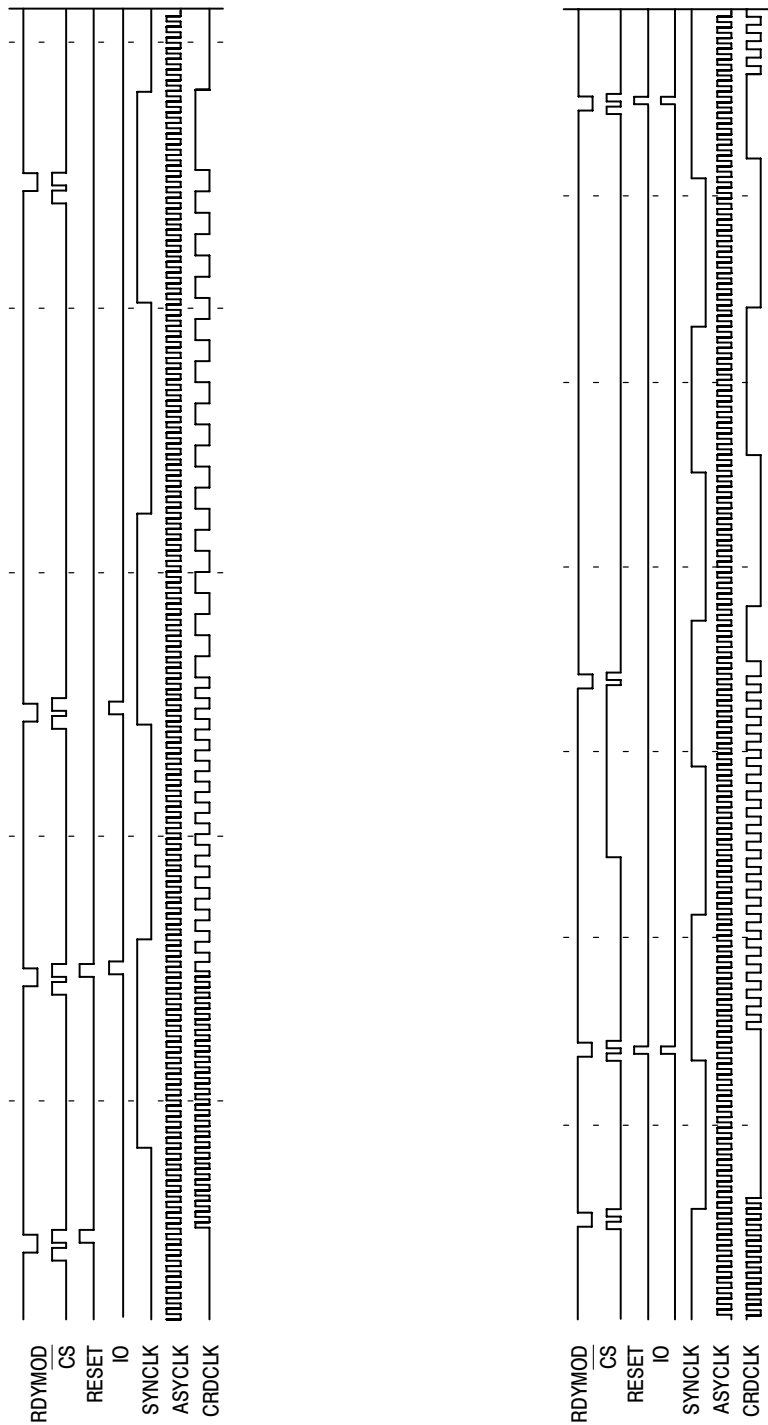

Figure 29. "On-the-Fly" Card Clock Selection Examples
**Clock Signal Synchronization and Consistency** (Figure 29). The clock divider includes synchronization logic that controls the switch from synchronous clock to asynchronous (and vice-versa), from any division ratio to any other ratio, during  $\overline{CS}$  changes and at powerup. The synchronization logic guarantees that each clock cycle on the **CRDCLK** pin is finished before changing clock selection (and has always the adequate duration), regardless of the moment the programming is changed.
- Consistent clock signal, even when division ratio or synchronization clock signal are changed “on the fly” during a card session (Figure 29)